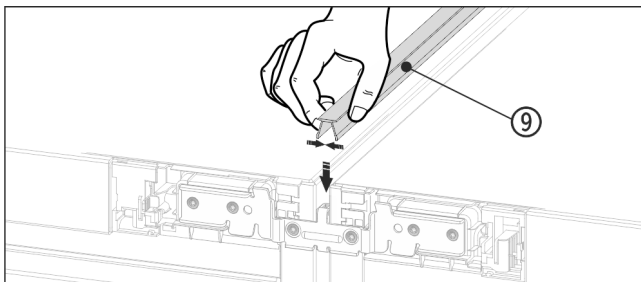

Fig. 25
- ▶ On the top press the short cover strip Fig. 25 (9) into the horizontal gap.